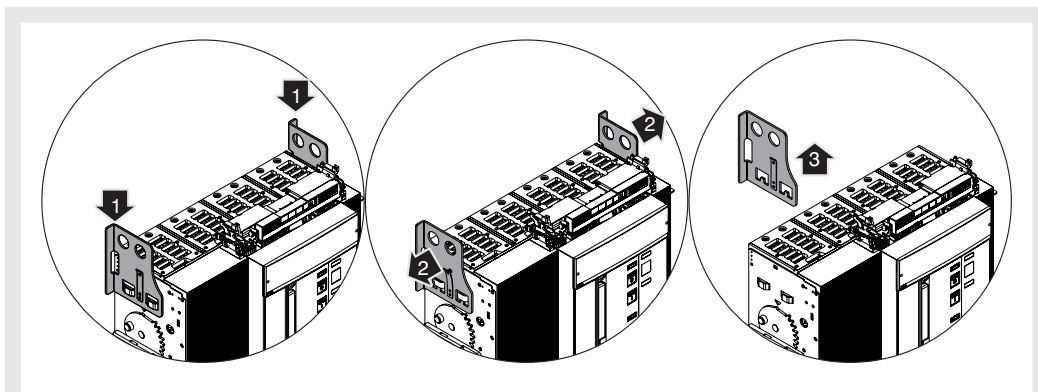

Figure 39
- 5. Unlatch the tongue and remove the lifting plates from the moving part. See Figure 39.